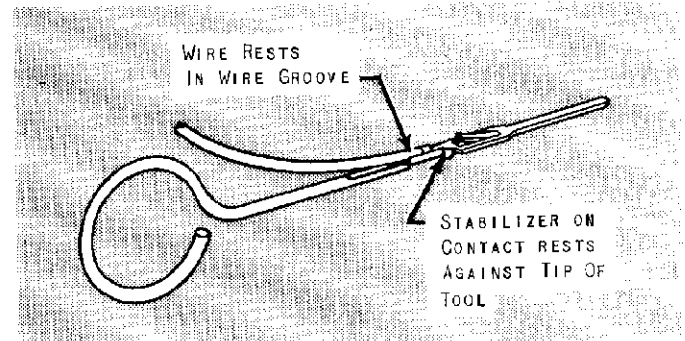

Fig. 3
- (b) To insert Crimp-on, Snap-in, Wrap-Type Contacts, Stabilizer on Contact rests against Tip of Tool. See Figure 3.